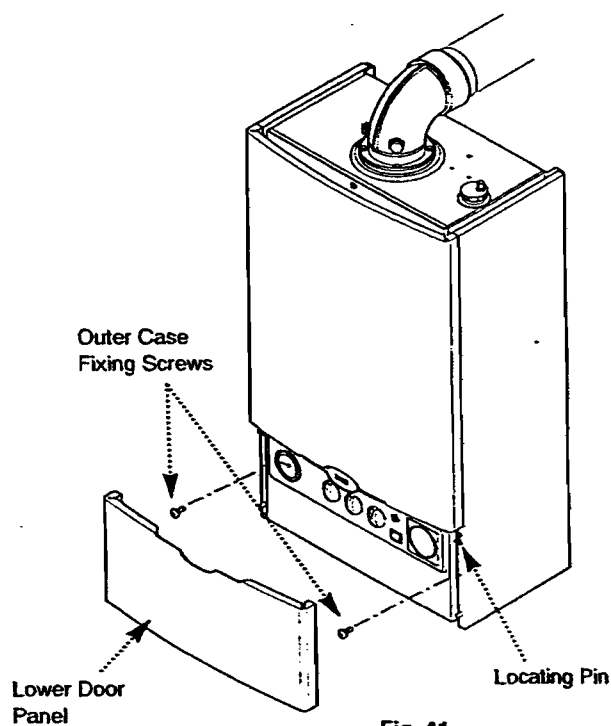

Fig. 41
2. Insert the two fixing screws into the sides of the chassis (Fig. 41).
4. Align the holes in the lower door panel with the locating pins on the case, and push the door on (Fig. 41).